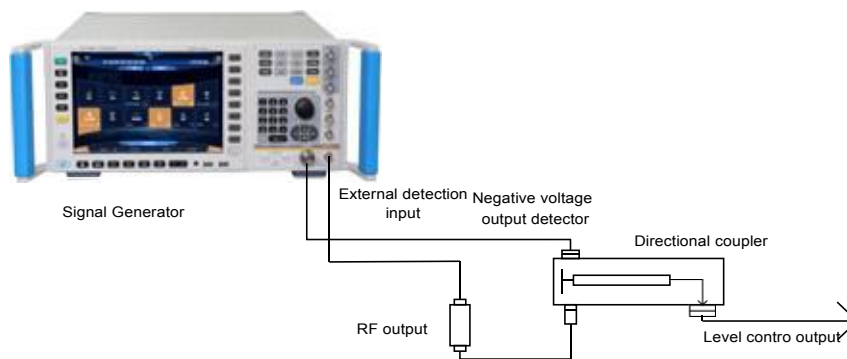

Fig.3.10 Wiring Diagram of ALC Circuit for External Level Control Measurement
A typical setup of external level control is shown in Fig.3.10. In external level control mode, the amplitude level will be fed back by the negative voltage output detector rather than the internal detector. The fed-back voltage controls the ALC system and thus the output amplitude.
- 1) Connect the instrument as shown in Fig.3.10;